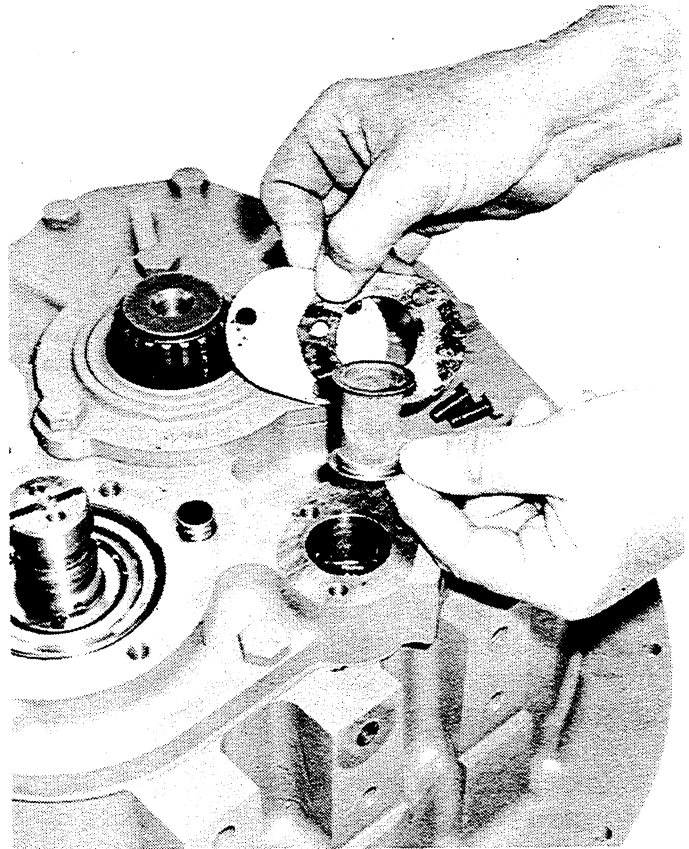

Figure 6-4. Pump Suction Filter Screen and Cover Plate Removal.
12. Remove the three capscrews (figure 12-1, 4), filter screen cover (45), gasket (46) and screen (47) from the rear cover (14). See Figure 6-4.